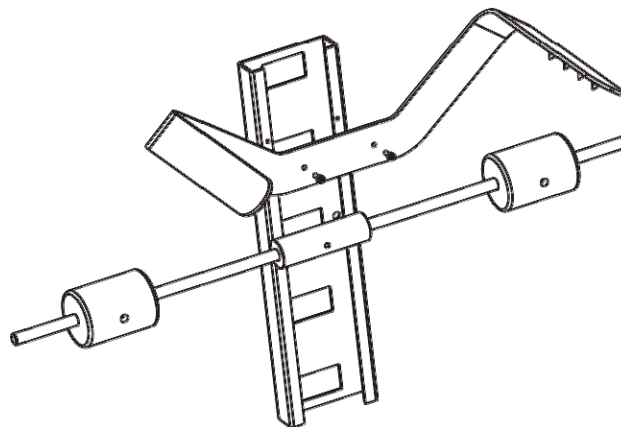

Fig. 4-11
2. Align the protective cylinder set (2) and fixed handle (5), and use the screw to secure it on the handle. See Fig. 4-11.